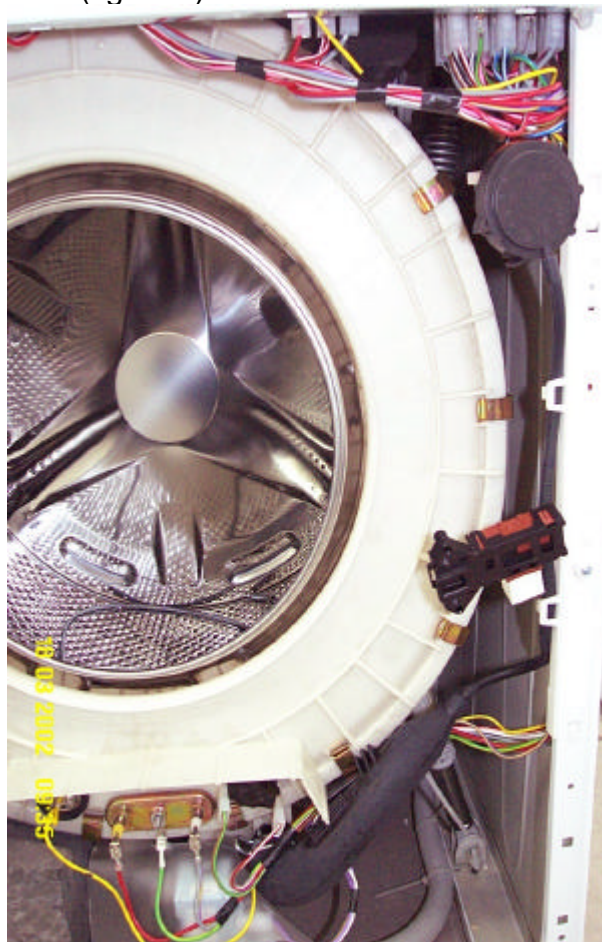

Figure : 7
- Cam is taken off by hand from the shaft (figure 7)
- Cables are disconnected (figure 7)